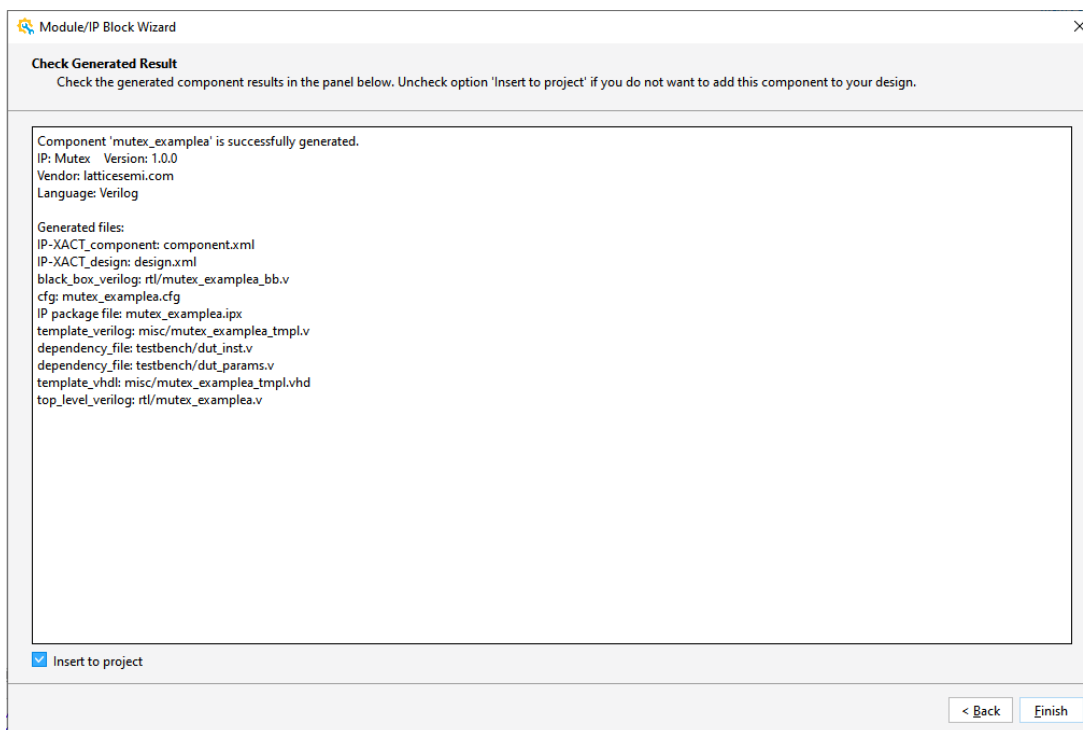

Figure 3.3. Verifying Results
- Verify the information. Click **Finish** (Figure 3.3).